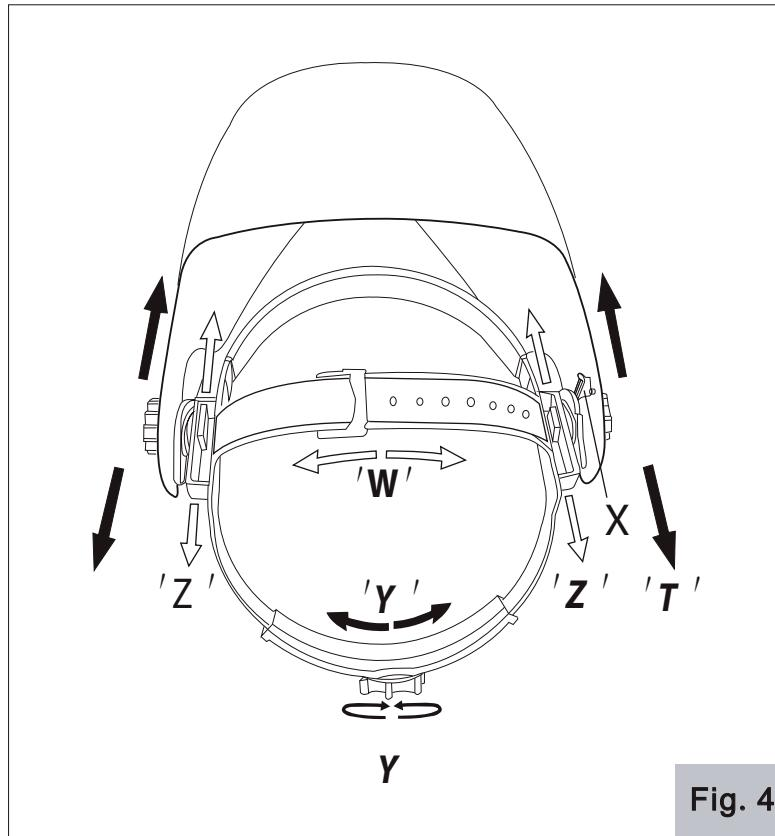

Fig. 4
4.1 Headgear top (see adjustment "W" in the fig. 4)
4.2 Headgear tightness (see adjustment "Y" in the fig. 4)
4.3 Headgear tightness (see adjustment "Y" in the fig. 4)
4.4 Angle adjustment (see adjustment "X" in the fig. 4)